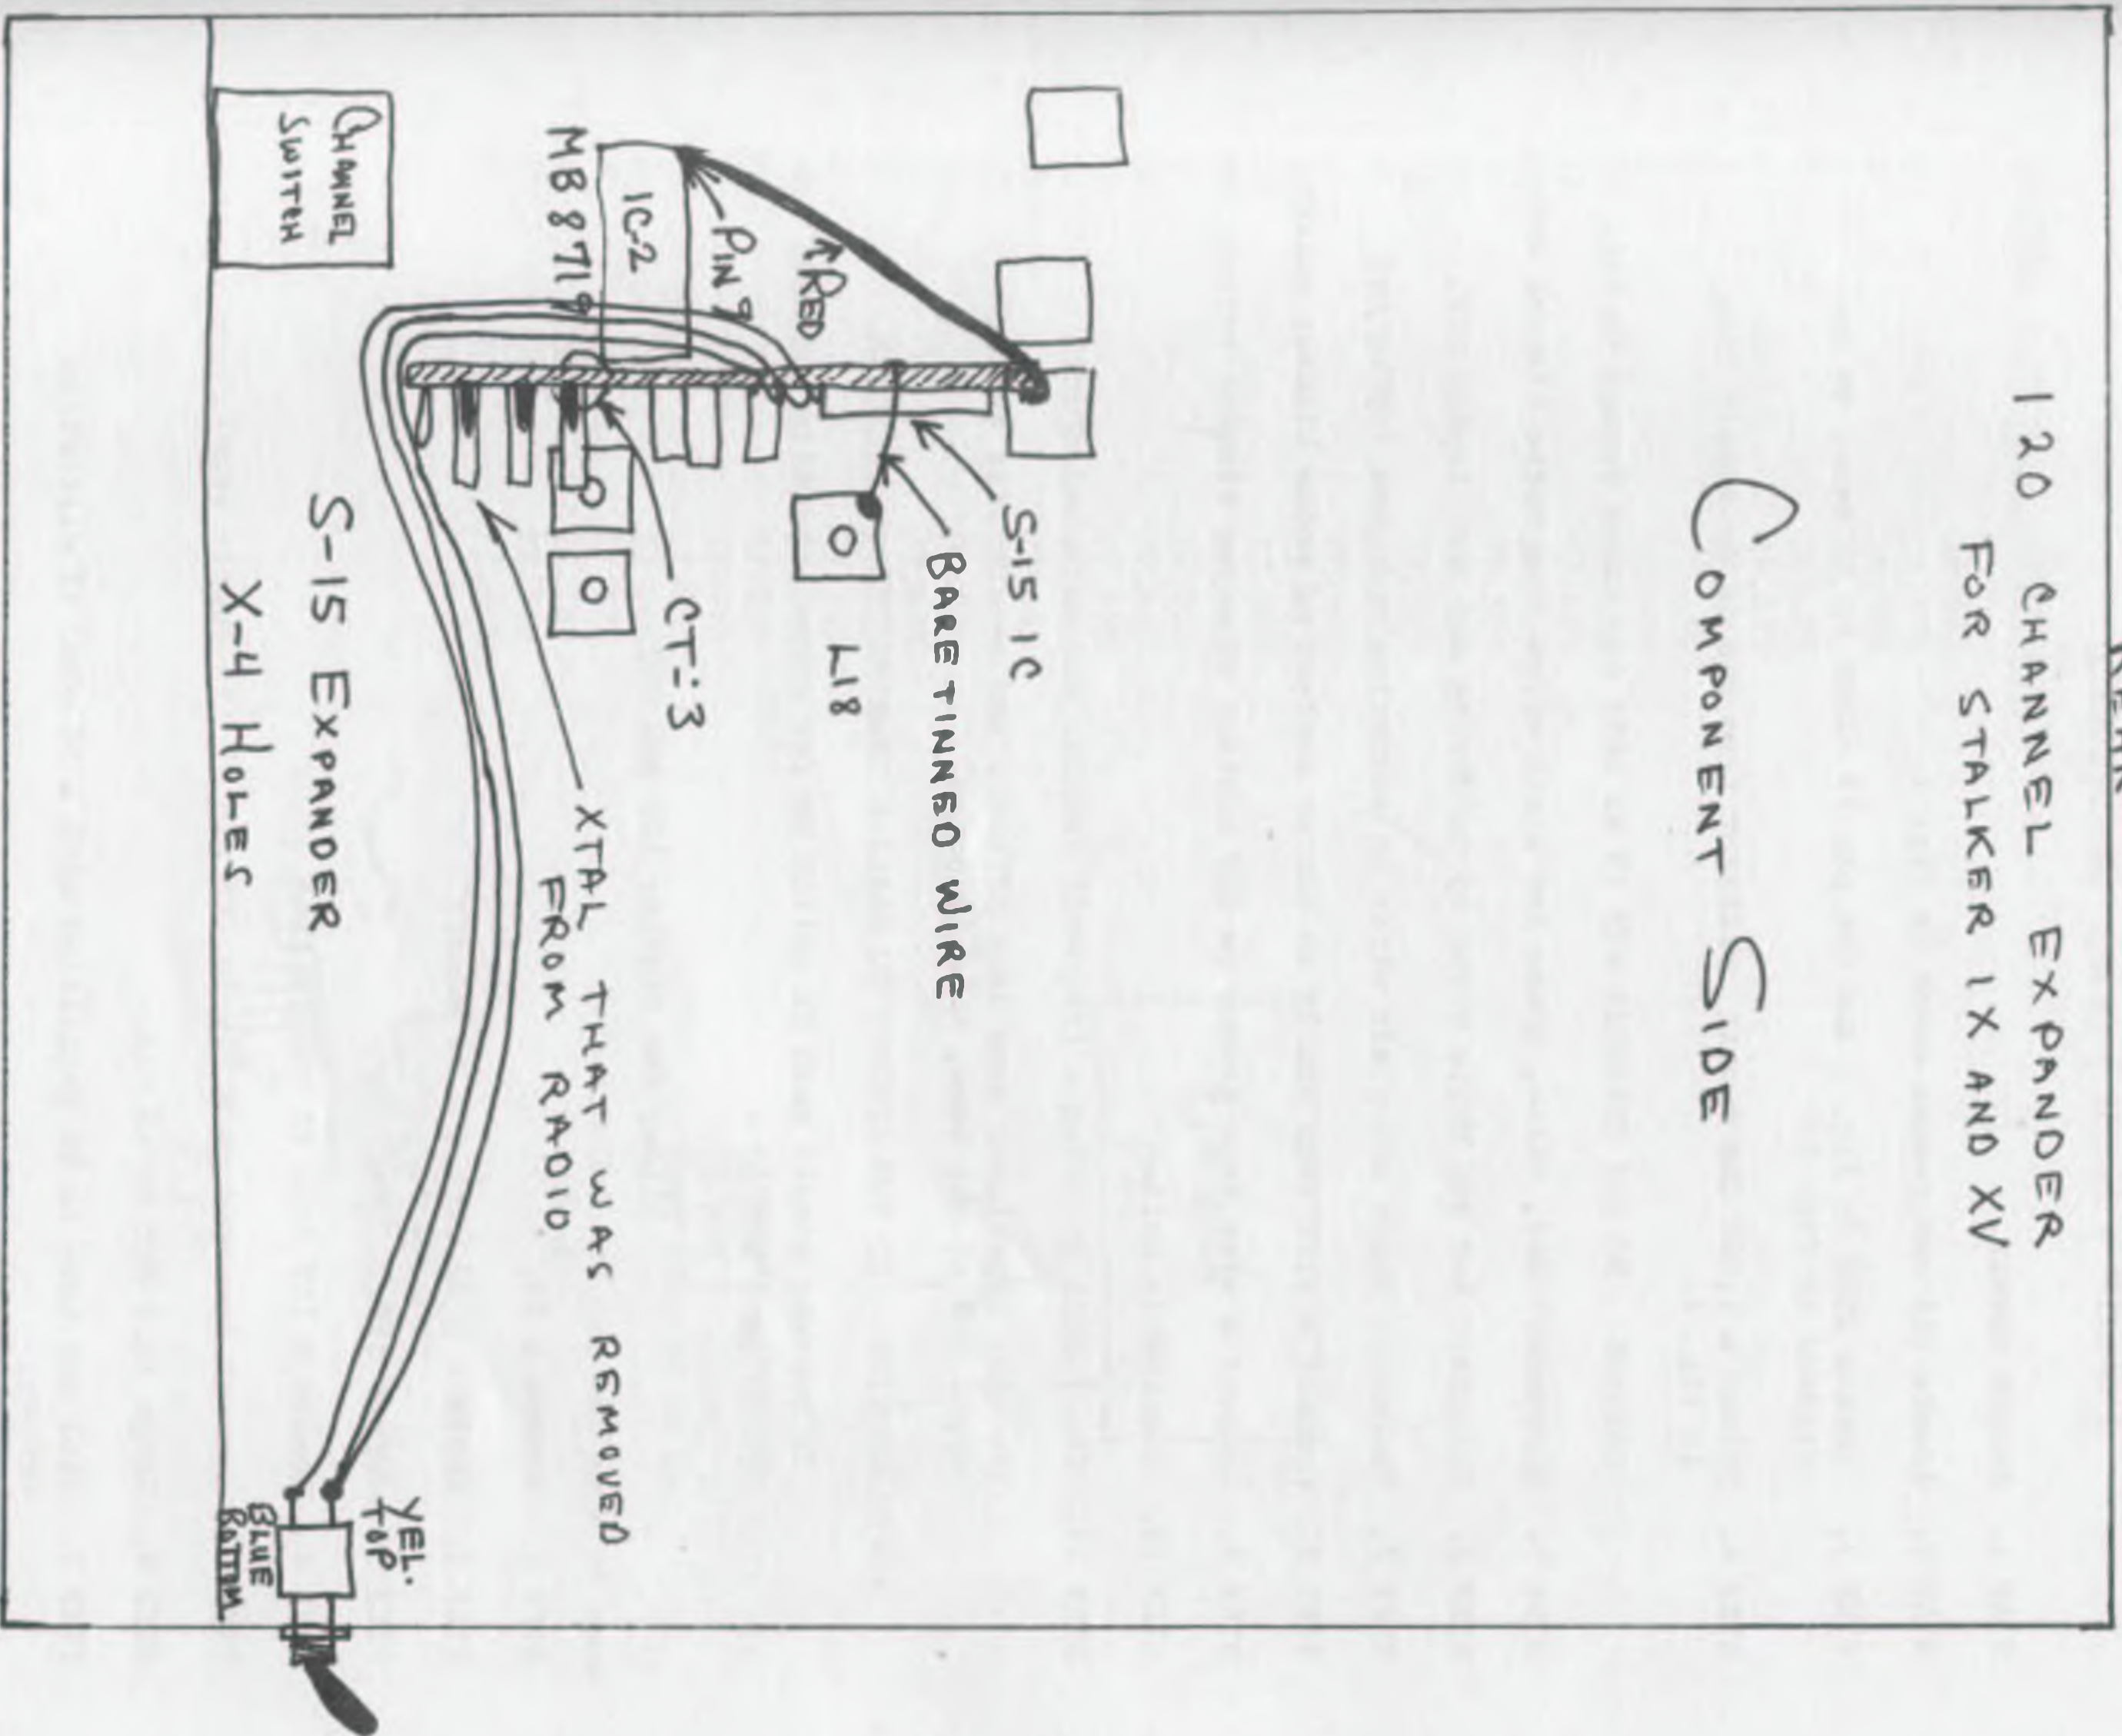

FIGURE 1
- STEP 2. Locate PLL and remove cover in Fig. 1.
- STEP 3. Locate D858 in Fig. 1 and cut pin 19 close to PC Board as indicated in Fig. 2.
- STEP 4. Solder a 1,000 Ohm  $\frac{1}{2}$  watt resistor from pin 19 to supply line in Fig. 1.